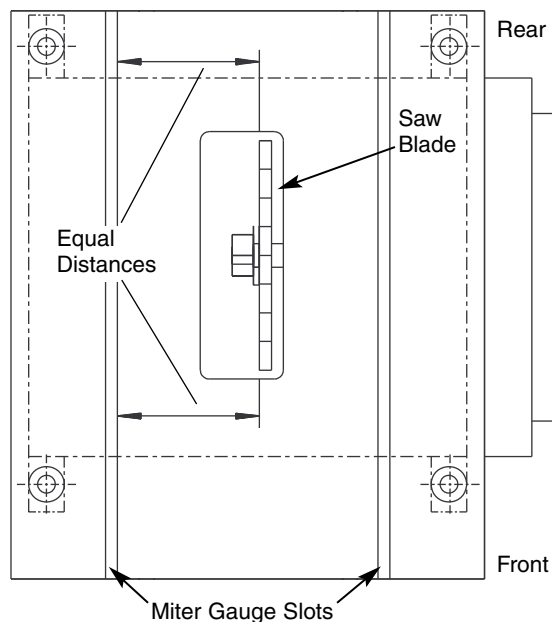

Figure 20 - Aligning Miter Slots to Blade
- Gauge this tooth with the dowel rod. If the tooth is in the same position, relative to the miter gauge slot, the table is parallel with the blade. In short, the miter gauge slots must be parallel with the blade. This means that when measuring distance between blade and slot at the front and rear of the blade, the distances will be equal (see Figure 20).